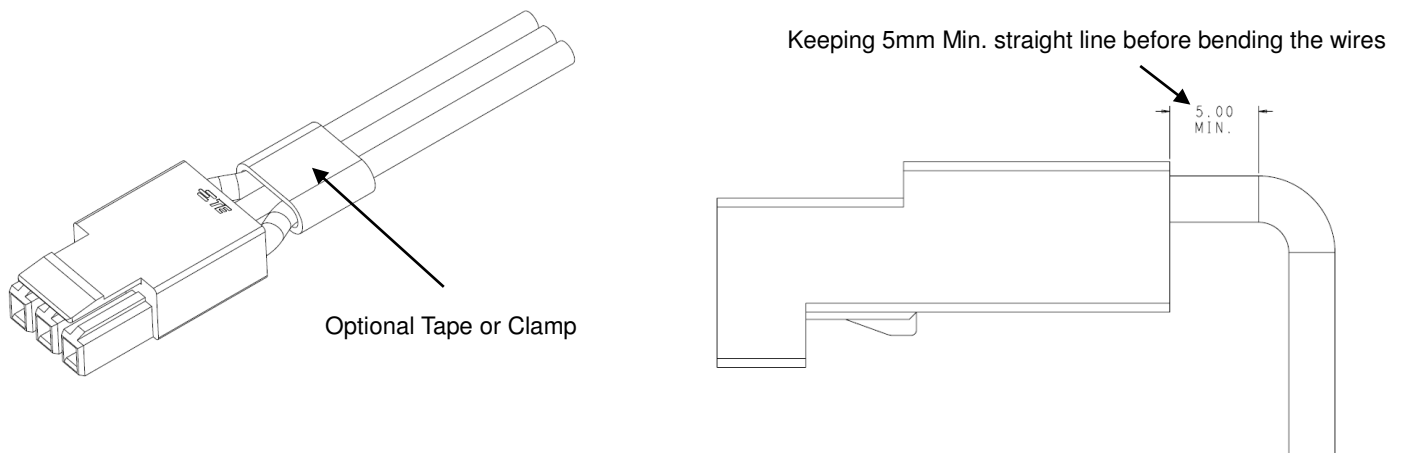

Figure 4
1. Apply optional approved flammability rated tape or clamp to organize the wire. Please keep at least 5mm long straight line before bending the wires, See Figure 4.